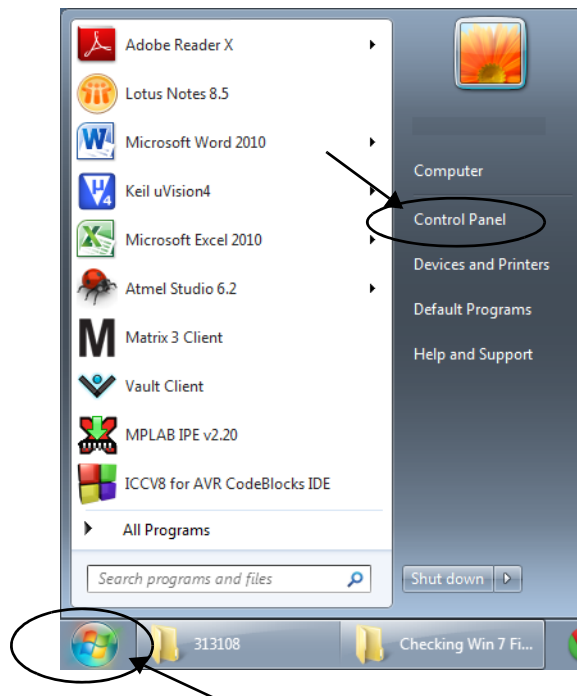

FIG. 54
1. Open the Windows 7 desktop. Click the Start button. Then click the Control Panel (FIG. 54).